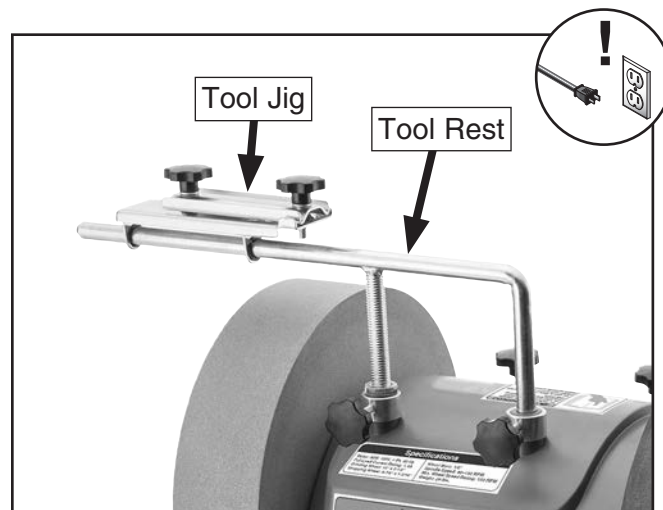

Figure 16. Tool jig mounted on tool rest.
2. Slide tool jig onto tool rest (see **Figure 16**).